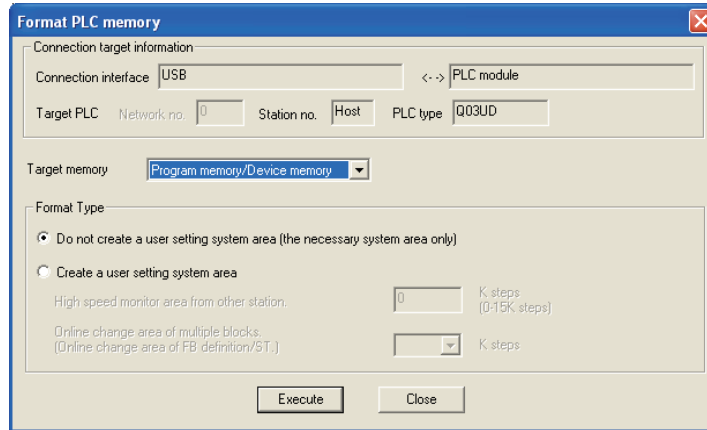

Figure 6.75 System area setting (when 1K step is set)
- Select [Online] → [Format PLC memory] in GX Developer to open the screen shown in Figure 6.75.